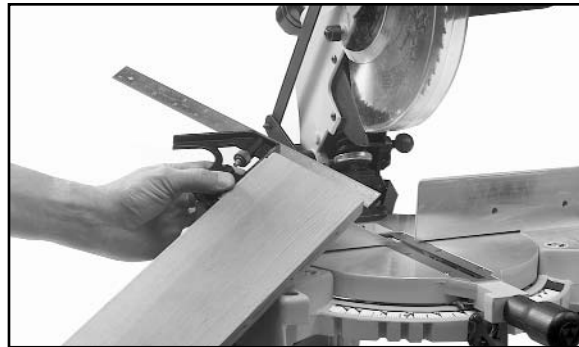

Fig. 31
5. Use a square to see if the piece of wood was cut at 90 degrees (Fig. 31).